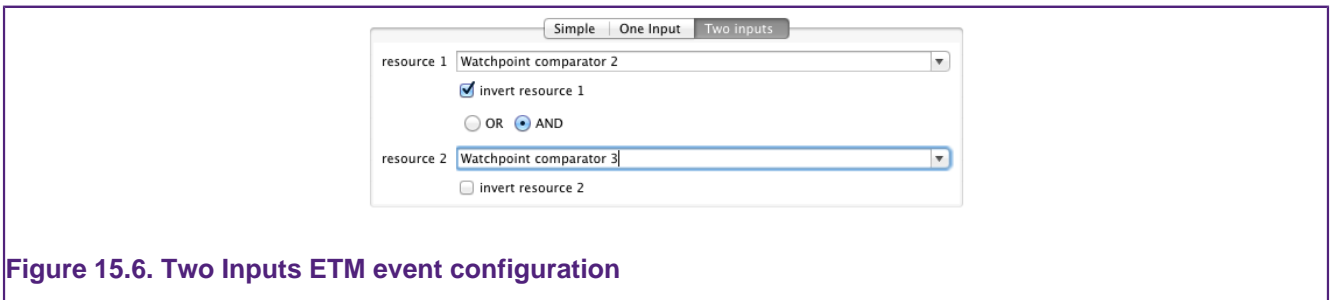

Figure 15.6. Two Inputs ETM event configuration
- To combine two event resources select the **Two Inputs** tab. The events can be chosen from the drop-downs and the logical combination operation selected. As with the **One Input** tab the resources can be inverted. See Figure 15.6.